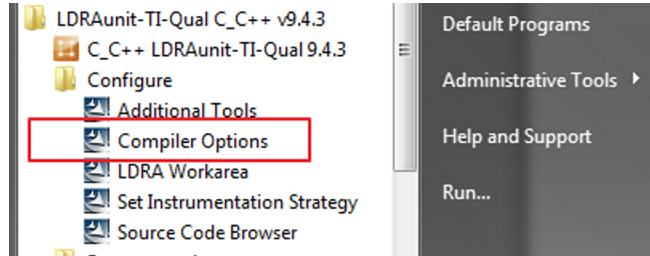
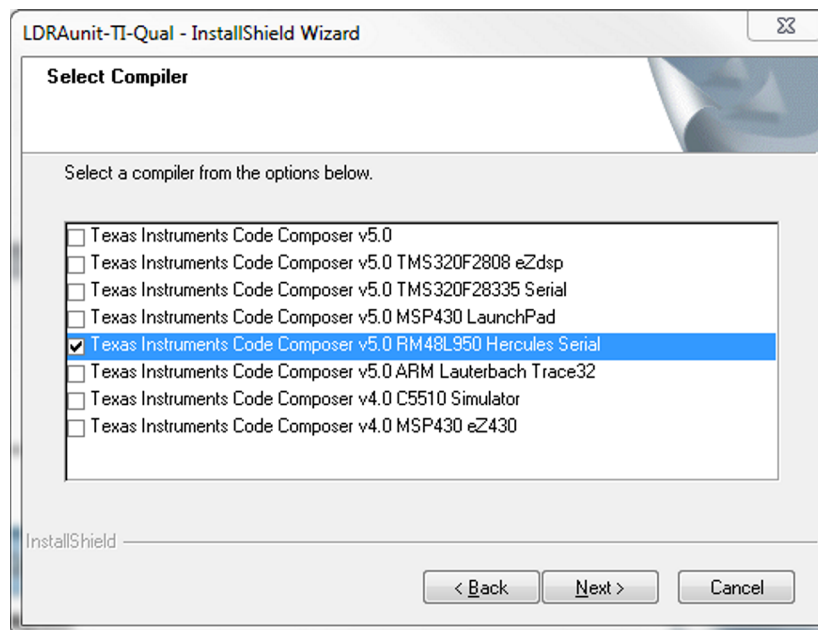

Figure 4. Select the Compiler Options
Figure 5. Select Compiler
1. If the user has already installed LDRAunit-TI-Qual_C_CPP_9.4.3 for HALCogen, then the compiler option must be changed using the “compiler options” executable from the LDRAunit-TI-Qual_C_CPP_9.4.3 (run this program in administrative mode). Figure 4 and Figure 5 explain how to change the compiler options.